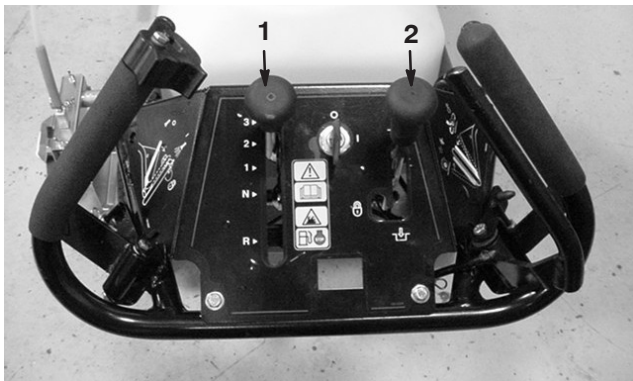

Figure 18
2. Engage the parking brake (Fig. 18).
3. Ensure that the speed selector lever is in Neutral and the paint and traction control levers are in the disengaged (released) position (Fig. 18)).
1. Move the ground speed control to the Neutral position and engage the parking brake (Fig. 18).
3. Move the ground speed control to the desired speed (Fig. 18).